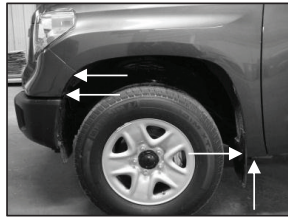

Figure 3
1. Remove the three factory screws from the mudflap at the rear of the wheel well (**Figure 3**) using a 10mm socket. Retain the hardware for installing the flares. Remove the push retainer from the underside of the mudflap and completely remove the mudflap.
2. Remove the two screws from the front of the wheel well using a 10mm socket (**Figure 3**). Retain the hardware for installing the fender flares.